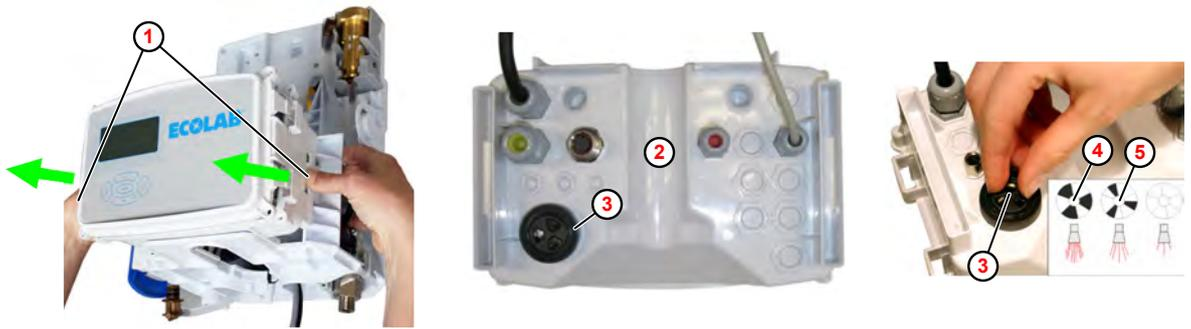

Fig. 8: Set alarm volume
1. ➤ Press both tabs ( Fig. 8 , ① ) on the electronics housing ② .